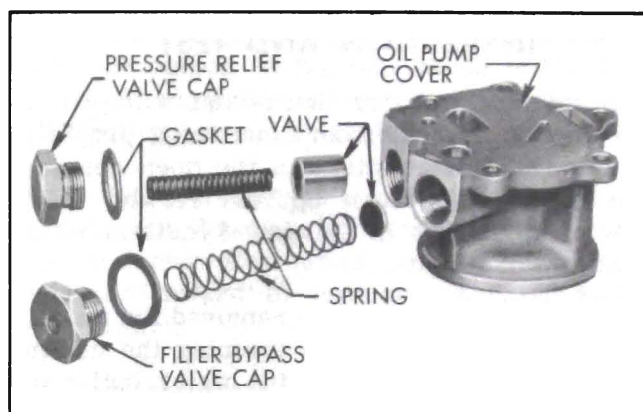

Figure 2-55—Oil Pump Cover Exploded View
2. Remove the oil pressure relief valve cap, spring and valve. See Figure 2-55. Remove the oil filter by-pass valve cap, spring, and valve.
1. Lubricate and install pressure relief valve and spring in bore of oil pump cover. See Figure 2-55. Install cap and gasket torque cap to 30-35 pounds with a reliable torque wrench. Do not over-tighten.
6. Reinstall gears so petroleum jelly is forced into every cavity of the gear pocket and between the teeth of the gears. Place new gasket in position. See Figure 2-55.